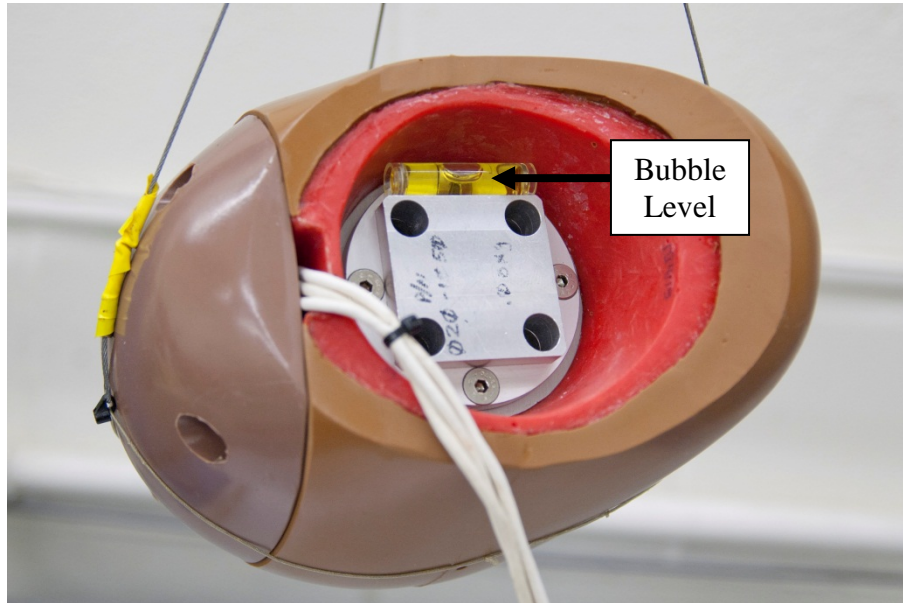
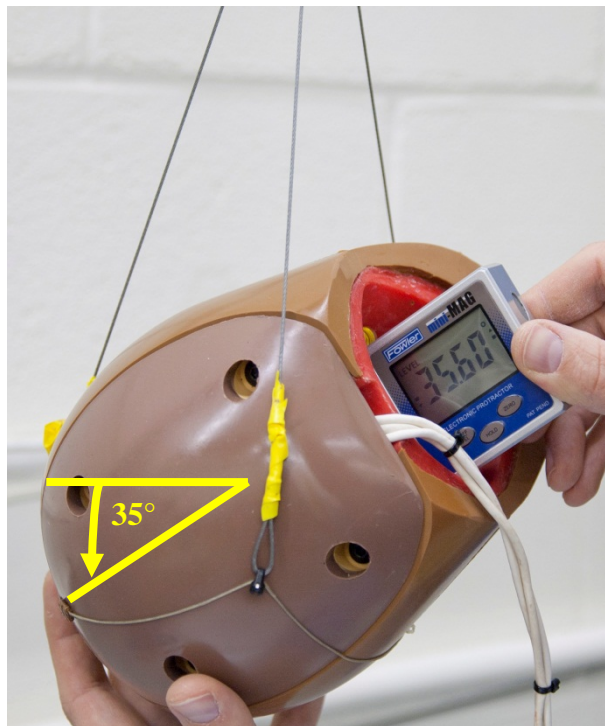

Figure 12. Ensure that the head is horizontal fore-aft
Figure 13. Adjust head angle for lateral head qualification test
- Ensure that the head is horizontal fore-aft (Figure 12). Placement of a bubble level along the edge of the upper neck load cell simulator may aid in this process.
- Adjust the head angle so that the upper neck load cell simulator is $35 \pm 2^\circ$ forward from the vertical (Figure 13). Ensure that the head remains horizontal in the fore-aft direction (Figure 12).